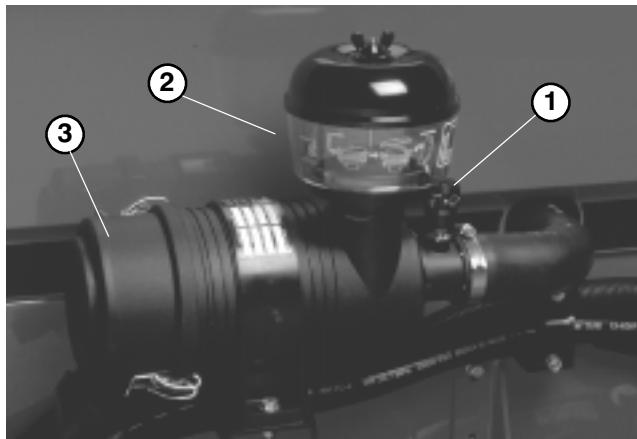

Figure 43
2. Service the air cleaner filters when ever air cleaner indicator (Fig. 43) shows red or every 400 hours (more frequently in extreme dusty or dirty conditions). Do not over service air filter.
SERVICING PRECLEANER BOWL (Fig. 43)
- Reset indicator (Fig. 43) if showing red.